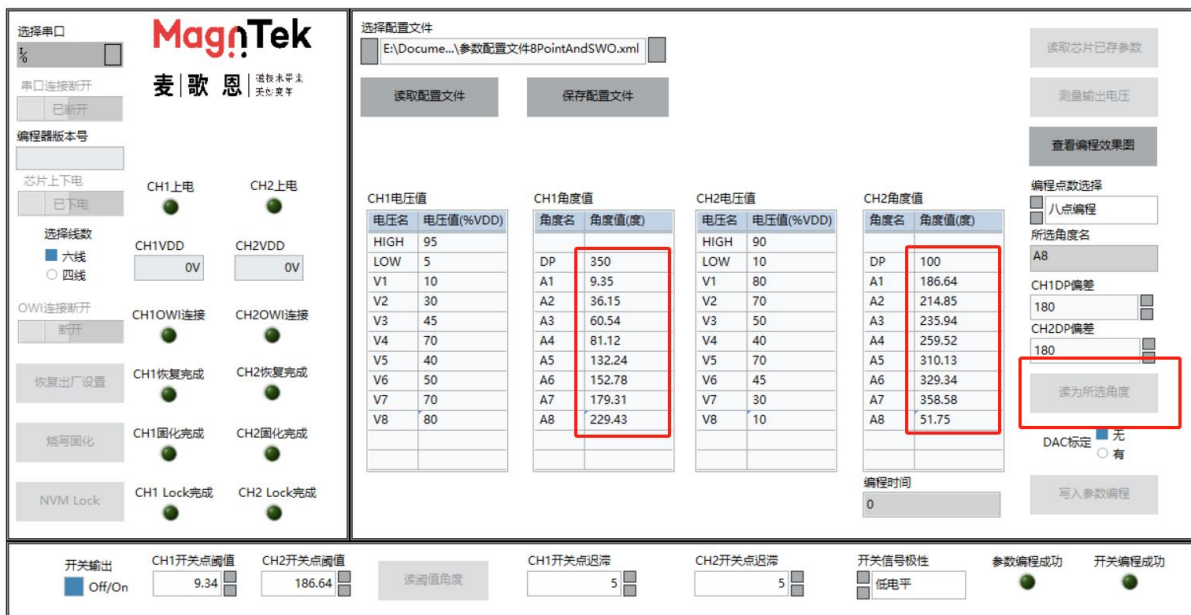

Figure 5.3.11 Read the Angle value of each position and the threshold of the switch point
- Click the "Angle value" box corresponding to "A1" of CH1, set the magnet (sensor) angle to the first position that needs to be programmed, click the "Selected Angle" button to read the current chip angle value after stabilization, and display it in the angle value A1 of CH1 and CH2. The A1 angle of the current readout chip angle CH1 is 9.35°. The angle A1 of CH2 is 186.64°. The angle values of 'A2' ~ 'A8' of CH1 and CH2 can be read in the same way (Figure 5.3.11).